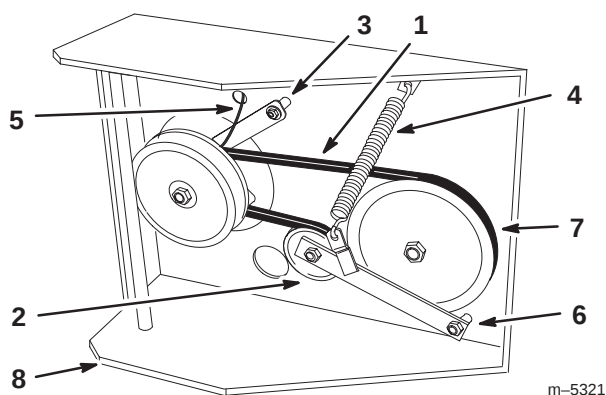

Figure 60
6. Disconnect clutch retainer from the engine deck (Fig. 60).
7. Unhook tension spring from side of frame (Fig. 60).
10. Torque pivot bolt to 35-40 ft-lb (47-54 N•m). Install tension spring between idler arm and frame bracket (Fig. 60).
11. Install clutch retainer to the engine deck (Fig. 60).